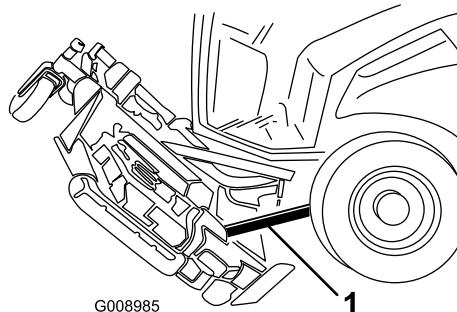

Figure 125
6. Wedge a block of wood between the rear of the deck and the machine (Figure 125).